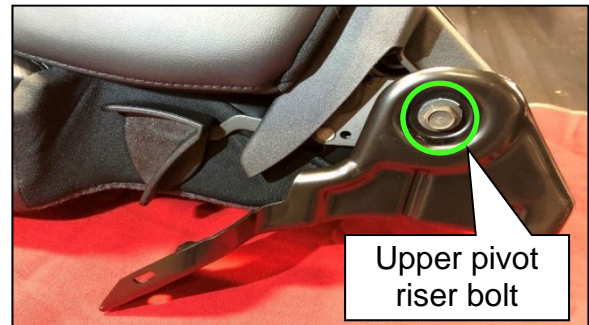

Figure 13
14. Install and finger tighten the upper pivot riser bolt (Figure 13).